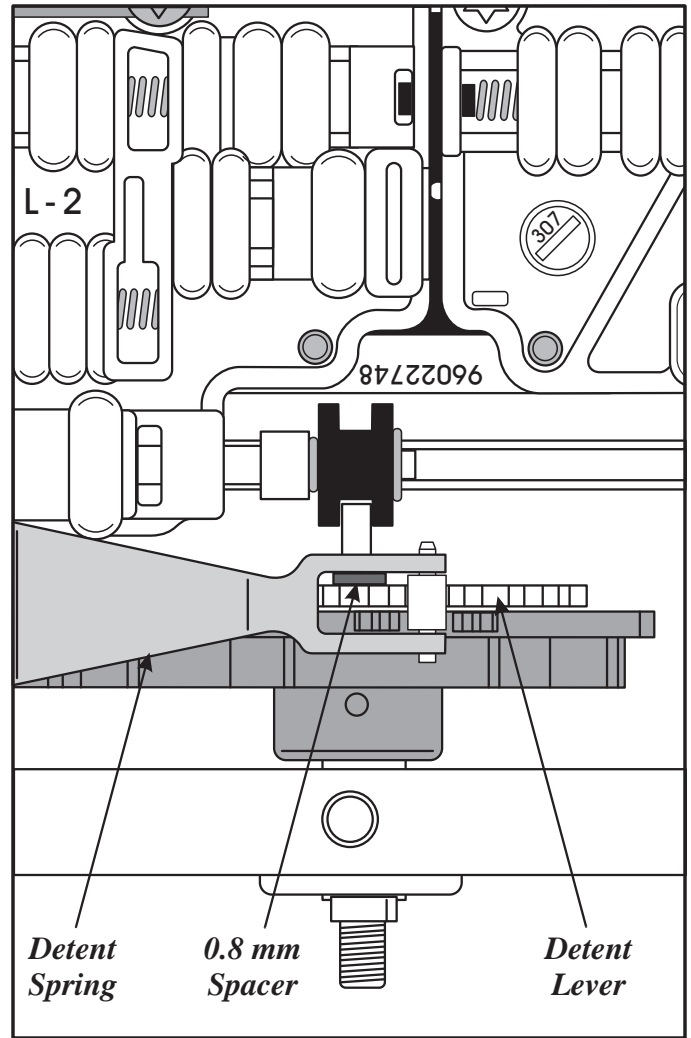

Figure 200
7. Install a 0.8 mm spacer between inside detent lever and the detent spring, as shown in Figure 200.